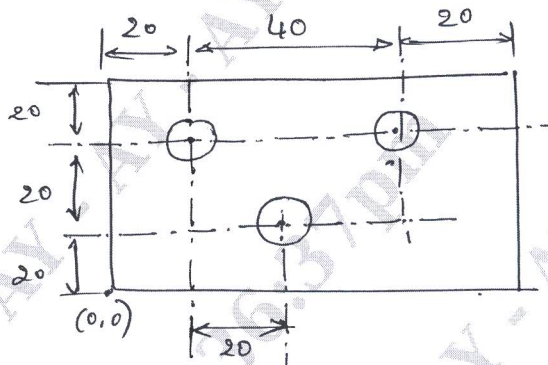

Fig.Q10(b)
- b. Prepare the manual part programming to drill the holes for the part shown in Fig.Q10(b). (10 Marks)